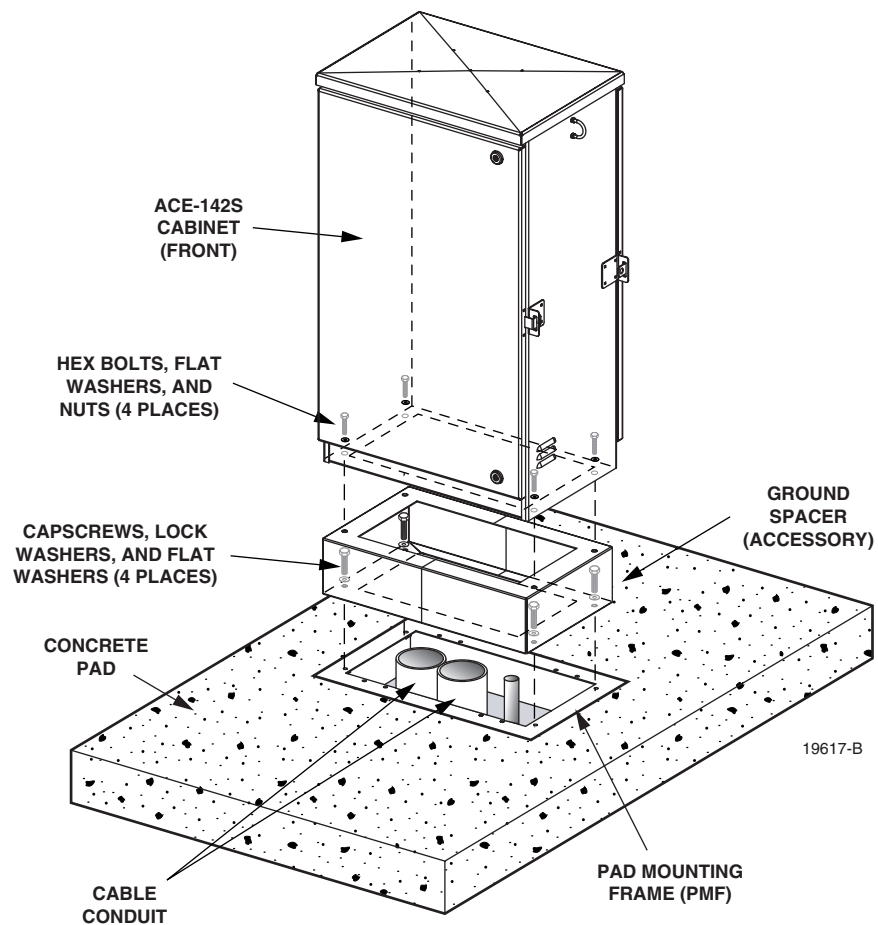

Figure 10. Mounting the ACE-142S Cabinet on the Concrete Pad
3. Place the assembled ground spacer in position for mounting on the PMF as shown in Figure 10.